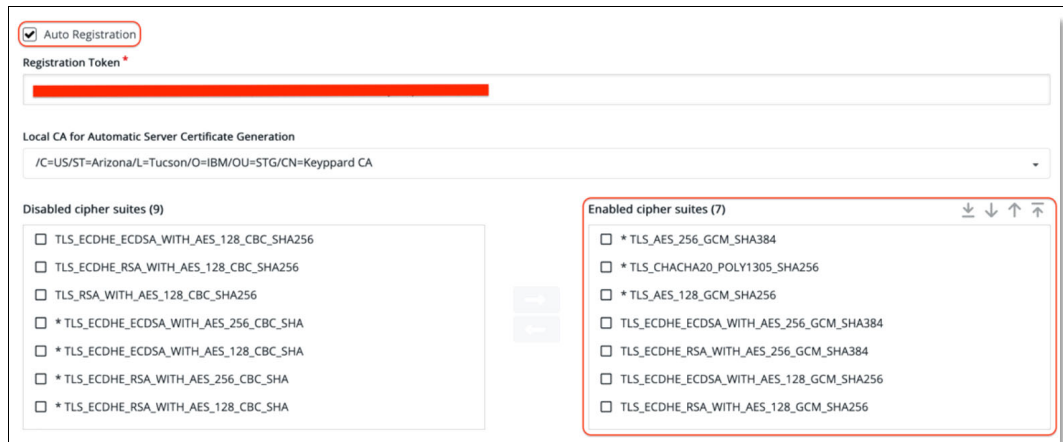

Figure J-28 Signature algorithm
3. Add the Signature Algorithm as needed and enable the auto registration setting. See the example in Figure J-28.